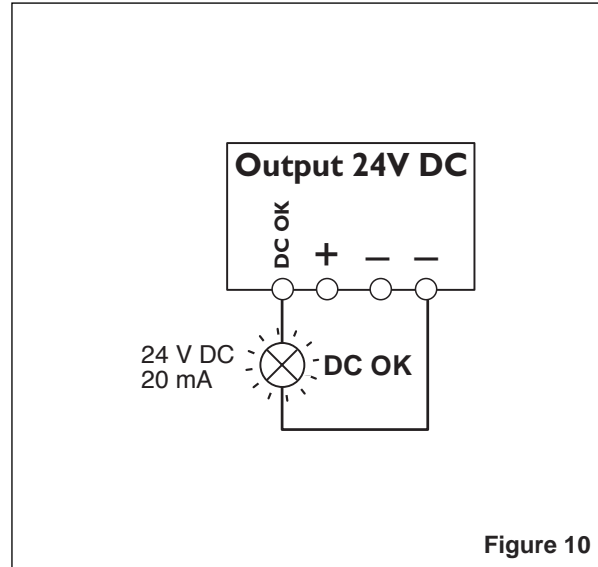

Figure 10
Active signal output (③, Figure 10)